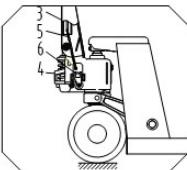
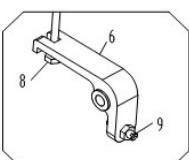

fig. 2
fig. 4
Insert the hand grip 3 to place A. Couple the hand grip 3 and pump body 4 with pin roll 2. See fig 2. Put the chain 4 of hand grip get across the middle hole of pin roll 2.
Take screw nut which is at the end of chain 5 and hitch the groove of lever board 6. See fig 2 and fig 4.
1. Locate Screw 9 (see Fig. 4).